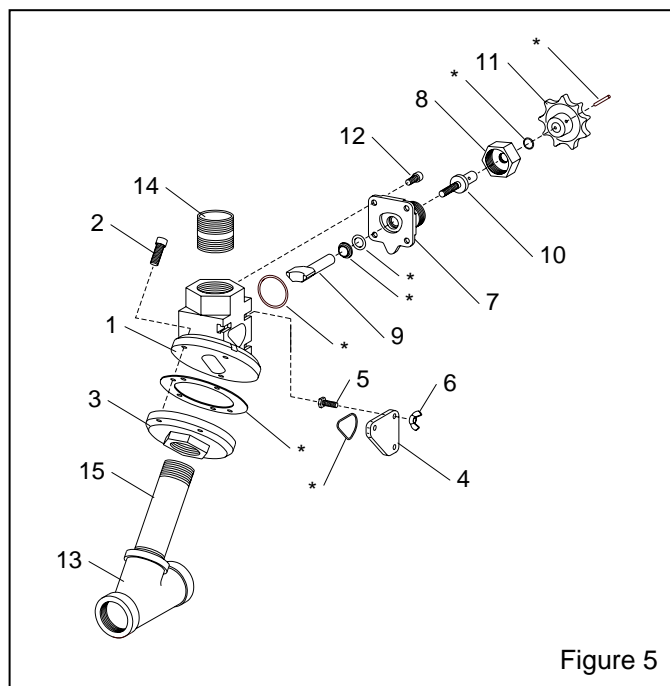

Figure 5
**4.1 Manual Quantum Abrasive Metering Valve Figure 5**